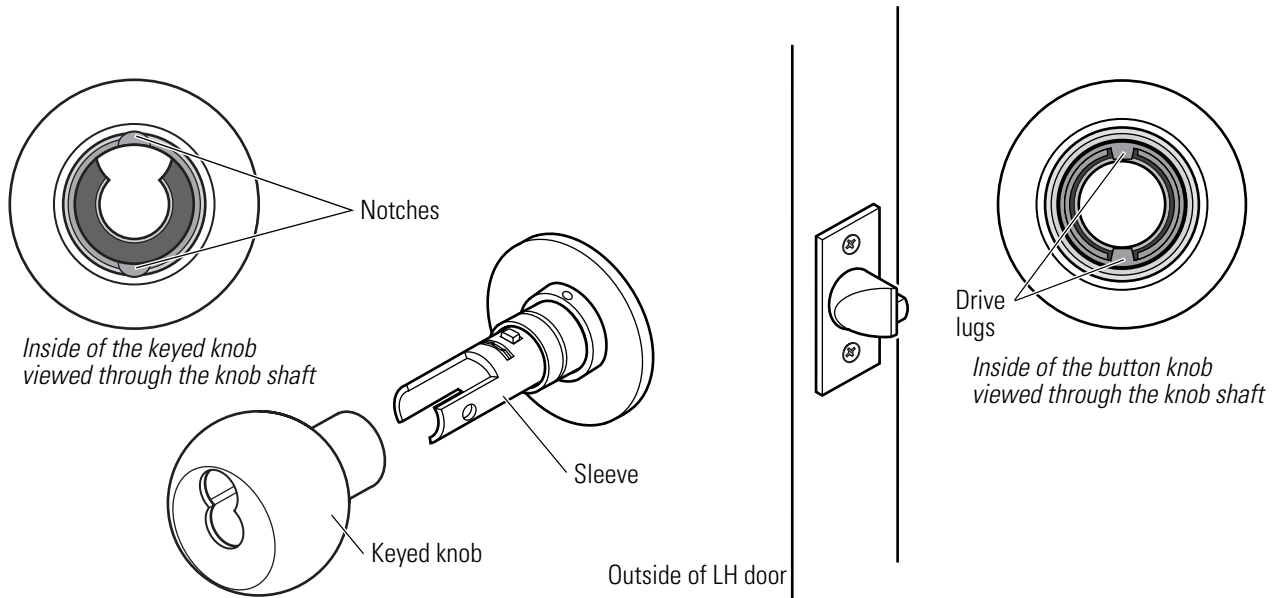

**Figure 3.3** Removing the plain knob or button knob
1. Insert the long protrusion on the KD316 spanner wrench into the hole on the shaft of the knob, as shown in Figure 3.3.